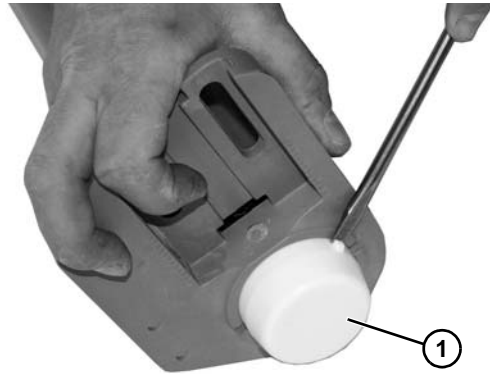

Figure 77
5. Remove the bearing cover (**Figure 77, item 1**).